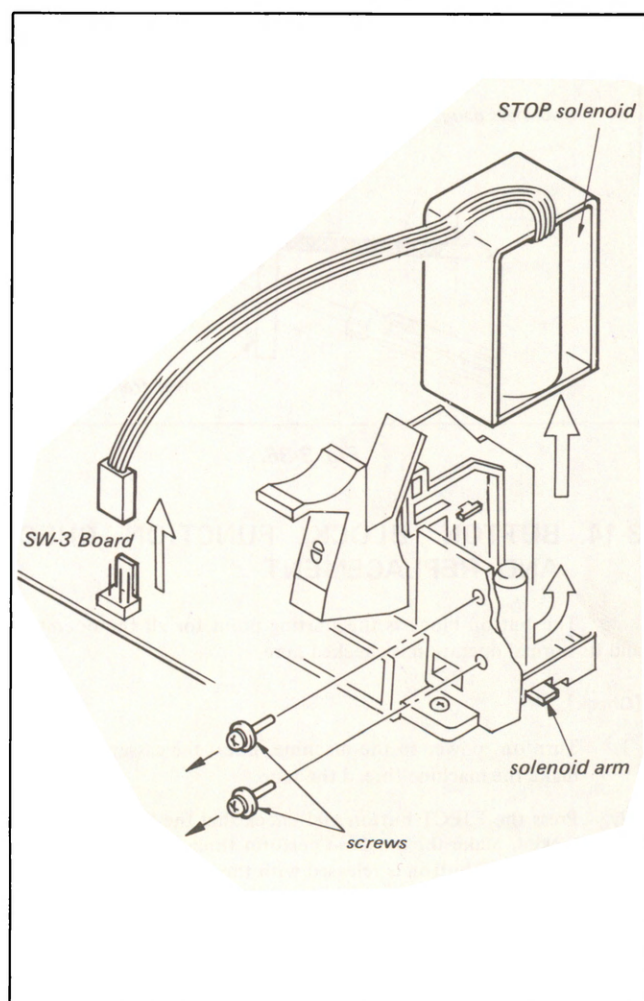

Fig. 3-35.
2. Remove the two screws shown in Fig. 3-35 and pull the solenoid itself upward.